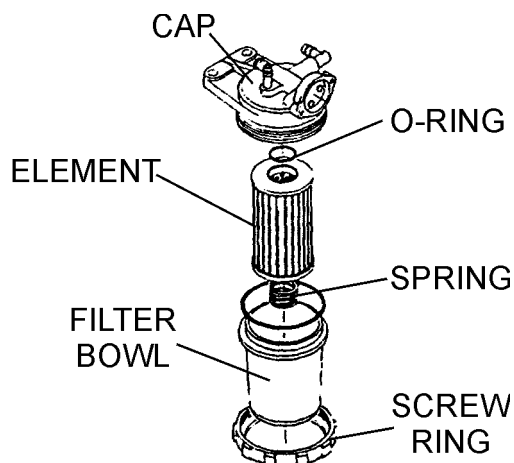

Figure 37. Fuel Filter Disassembly
1. Remove the top cap (Figure 37) from the fuel filter and rinse cap and filter bowl with diesel fuel.